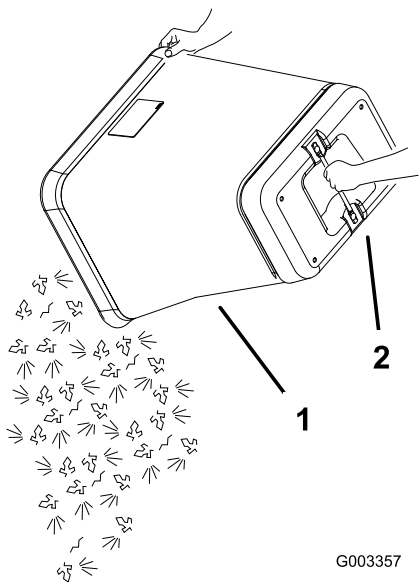

Figure 41
5. Grab the handle on the bottom of the bag and tip it over to empty the bag (Figure 41).